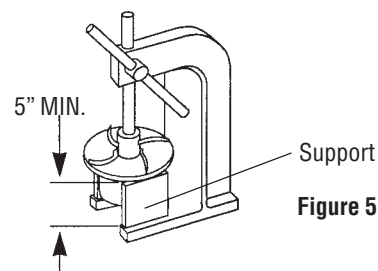

Figure 5
1. To separate impeller body (item 2) from the impeller drive (item 3), support the body in an arbor press using two 5" minimum spacer blocks.
2. Insert a 1-1/2" diameter plastic or wooden shaft into the impeller eye and push the drive out of the body. See Figure 5.